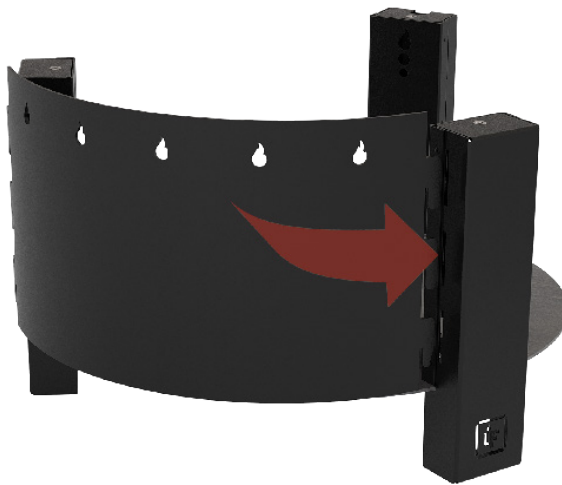

FIGURE 7
Step7: Insert the tabs on the Side Wall (W) into one of the legs, as shown in Fig. 7